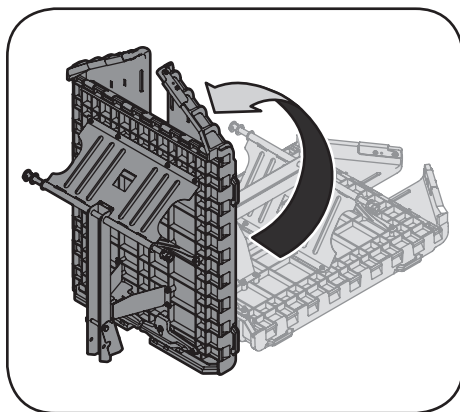

Figure 3-2
2. Carefully stand the hauler up as shown in Figure 3-2.